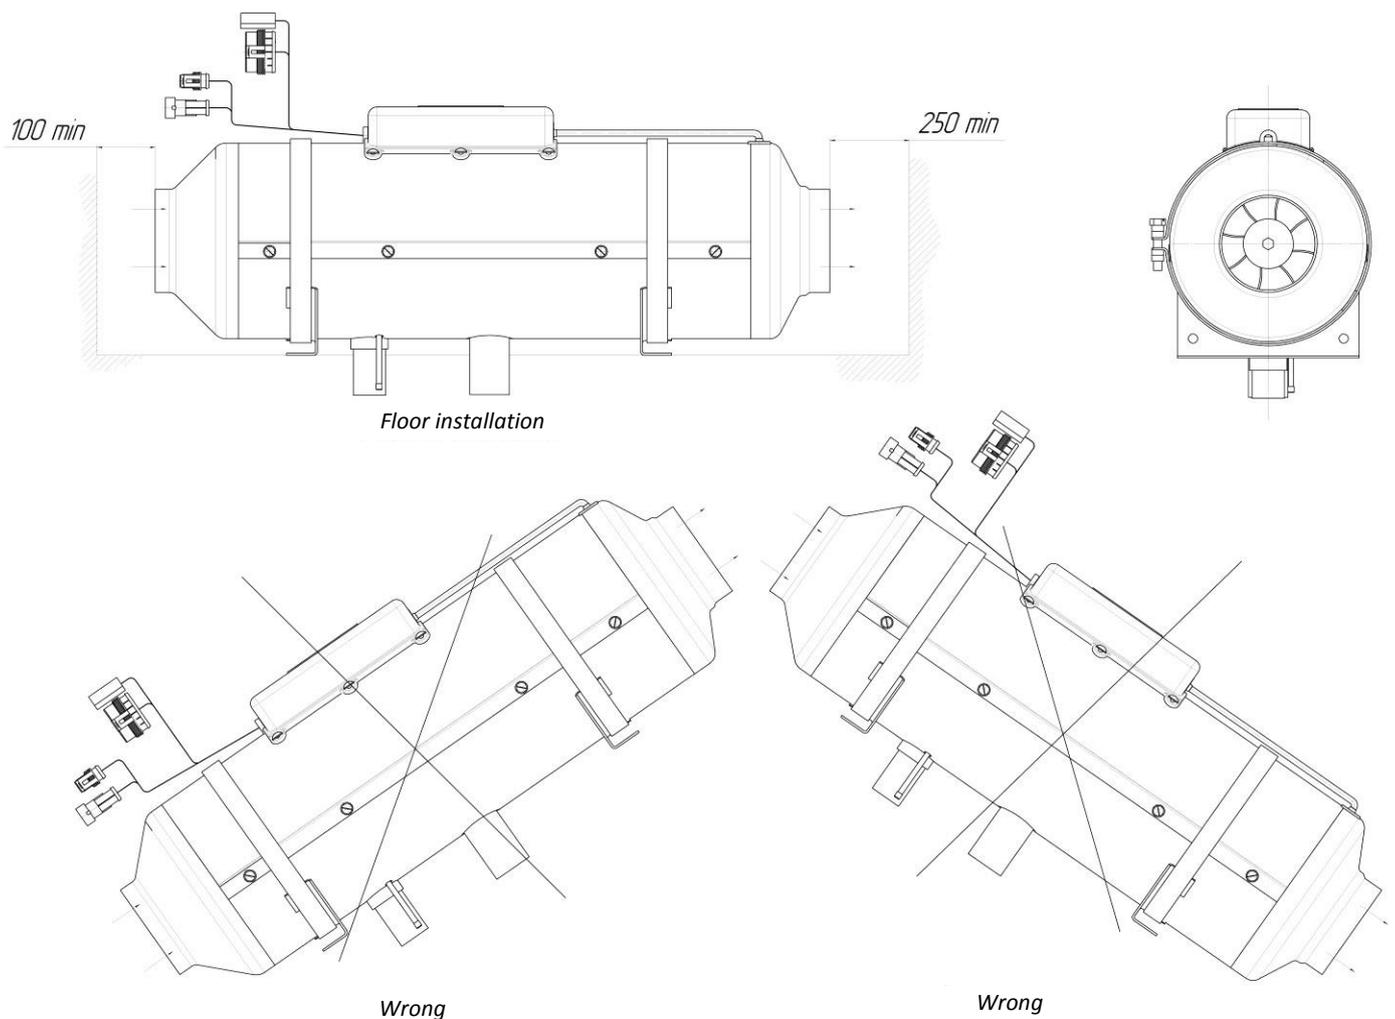

Fig. 8.1 Heater installation
Installation of the heater must be performed as shown on Fig. 8.1. The heater must be installed onto level surface. Its intake must be oriented in such a way so no exhaust gases of the vehicle and the heater itself could enter the intake during normal operation. Walls and baffles may not be located closer than 100 mm from the intake and 250 mm from the outlet. The intake and outlet must be provided with suitable protection against foreign objects falling inside. To facilitate maintenance, install the heater in a way that allows easy dismantling. During installation, ensure the heater casing does not contact either the floor or other parts of the vehicle interior.
**Attention! Operation of the heater depends on correct installation of the heating element. The heating element must be installed horizontally as shown on Fig. 8.1.**